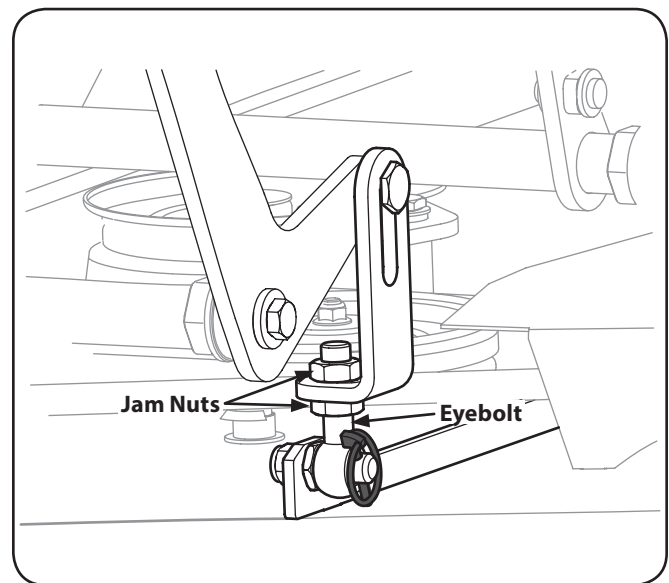

Figure 6-2
3. Adjust the eyebolt at the left front of the deck so that the blade-to-ground height at the right outside blade tip matches that of the left outside blade tip. This is done by loosening the jam nuts on the eyebolt and tightening the upper nut to raise the deck and loosening the nut to lower the deck. The right outer blade tip height is fixed by the right, front eyebolt so you must adjust the left outer tip to match it. See Figure 6-2.
3. Loosen the jam nuts at the rear left and right of the deck eyebolts. Refer to Figure 6-2.